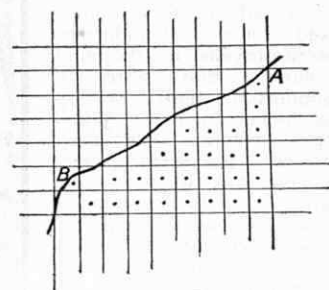
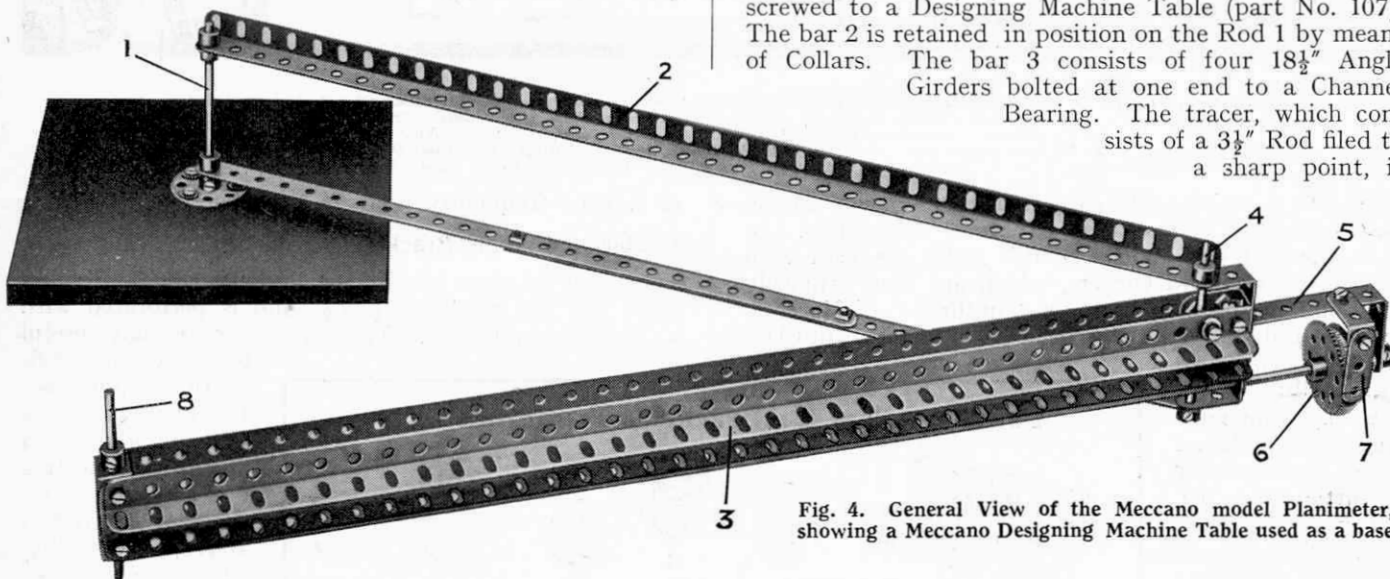
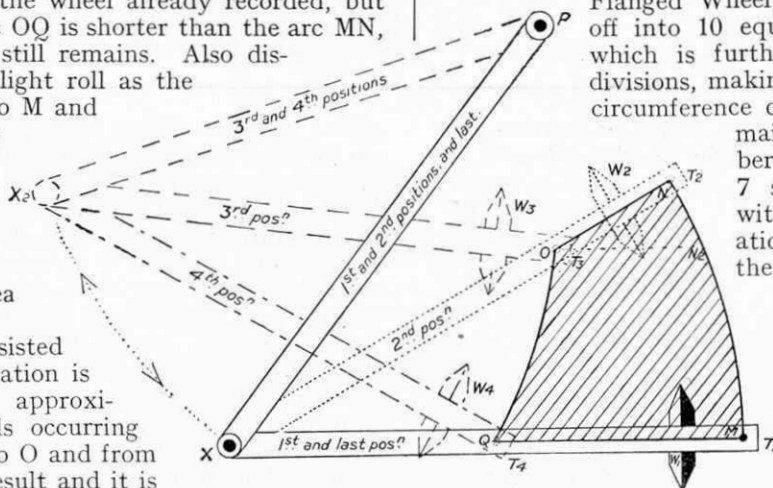

Fig. 3. Enlargement of AB in Fig. 1
Fig. 4. General View of the Meccano model Planimeter, showing a Meccano Designing Machine Table used as a base
Fig. 5. Drawing illustrating the theory of the instrument
(1) Graphical. Either by drawing the lines in on the paper or by placing on top of the paper a transparent sheet so ruled, we cover the figure with a multitude of tiny equal squares, the area of each square being some definite fraction of the scale in which the result is required, and then count up the squares (see Fig. 1). No error need result so long as we are dealing in whole squares, but when we come to the outer edges of the figure we shall find some of the squares incomplete, because cut off by the boundary line of the area (Fig. 3). Here each partial square must be considered on its own merits, and a search made round the edge of the figure for a second partial square of such a shape that the portion inside the area of the second square, added to the portion inside the area of the first square, will together equal a complete square, and so be included in our computation
The instrument consists in its essential features of two bars PX, XT, (Fig. 5) hinged together at the point X. One end of the arm PX pivots about the fixed point P in the paper, and the end T of the bar XT has a tracing point secured to it. This tracer T is traversed round the entire outside edge or perimeter of the figure, the area of which it is desired to find.
As will be seen from Fig. 4 the construction of the model is very simple. The point P in Fig. 5 is represented by a 3 1/2" Rod 1 that is held in a Bush Wheel screwed to a Designing Machine Table (part No. 107). The bar 2 is retained in position on the Rod 1 by means of Collars. The bar 3 consists of four 18 1/2" Angle Girders bolted at one end to a Channel Bearing. The tracer, which consists of a 3 1/2" Rod filed to a sharp point, is
tical considerations of the planimeter, but in the simple figure MNOQ (Fig. 5) it may readily be seen that the wheel records a definite sector MNX whilst rolling from M to N with X remaining stationary. The area of MNX is dependent entirely on the arc MN—since XM and XN are fixed lengths—and may therefore be recorded by the wheel. In this broad and approximate demonstration of the principle of the planimeter, we will disregard the slight roll of the wheel in moving from N to O. This roll of the wheel is very much less than the distance NN₂ (obtained by drawing ON₂ parallel to QM), because the point X takes up a new position X₂ as the bar XT moves from N to O, which counteracts the effect of the distance NN₂.
In Fig. 5 a Double Bracket is employed as a
Fig. 3 shows the $1"$ Reversed Angle Bracket used as a support for one end of the dashboard in a Meccano motor chassis. Both types of Reversed Angle Brackets form excellent reinforced bearings for Axle Rods, and typical examples of the use of the $\frac{1}{2}"$ size for this purpose will be found in Figs. 5, 6, and 9. Fig. 8 is another illustration of the adaptability of this part.
In addition to their obvious use as bearings for axles of trucks, etc., the Meccano Trunnions (Nos. 126 and 126a) lend themselves to many other quite different adaptations. In Fig. 5,